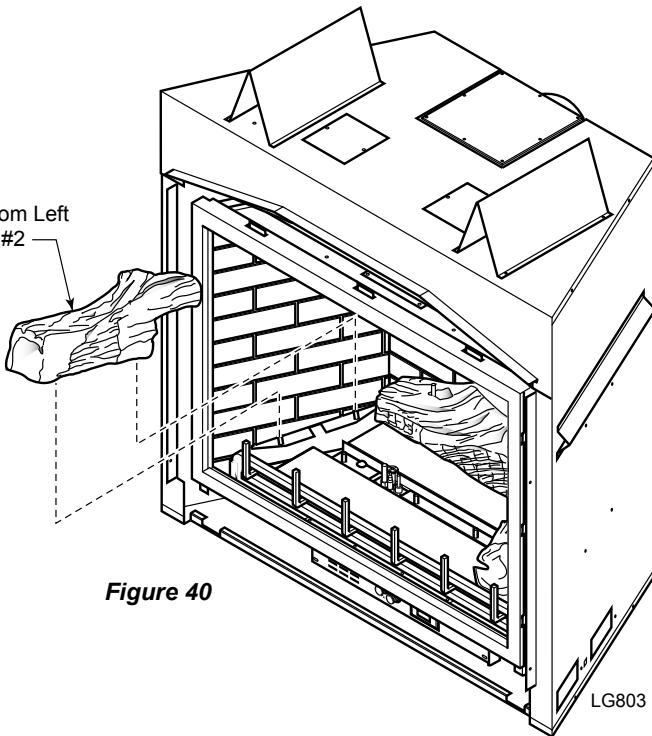

Figure 40
5. Place bottom left log (#2) on two pins against left side of firebox. *Figure 40*